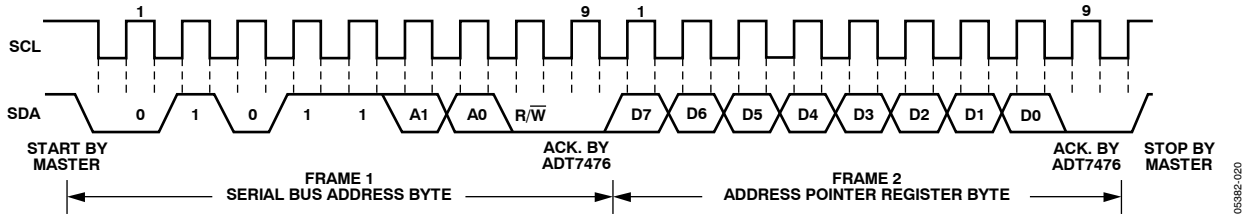
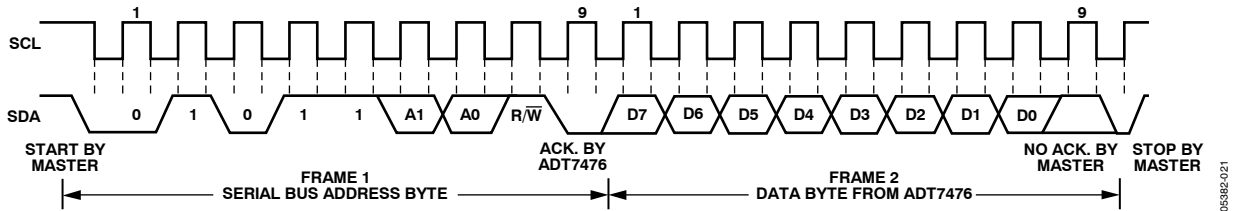

Figure 19. Writing to the Address Pointer Register Only
Figure 20. Reading Data from a Previously Selected Register
- If the ADT7476 address pointer register value is unknown, or not the desired value, it must first be set to the correct value before data can be read from the desired data register. This is done by performing a write to the ADT7476 as before, but only the data byte containing the register address is sent because no data is written to the register (see Figure 19). A read operation is then performed consisting of the serial bus address,  $\overline{R/W}$  bit set to 1, followed by the data byte read from the data register (see Figure 20).
- If the address pointer register is already at the desired address, data can be read from the corresponding data register without first writing to the address pointer register (see Figure 20).